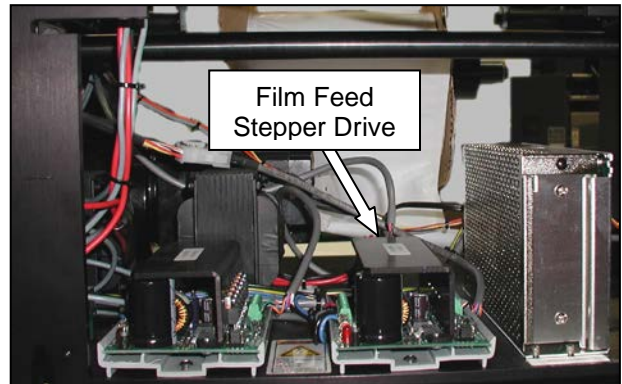

Figure 3-182. Film Feed Drive Location
- b. Locate the film feed stepper drive (Figure 3-182)